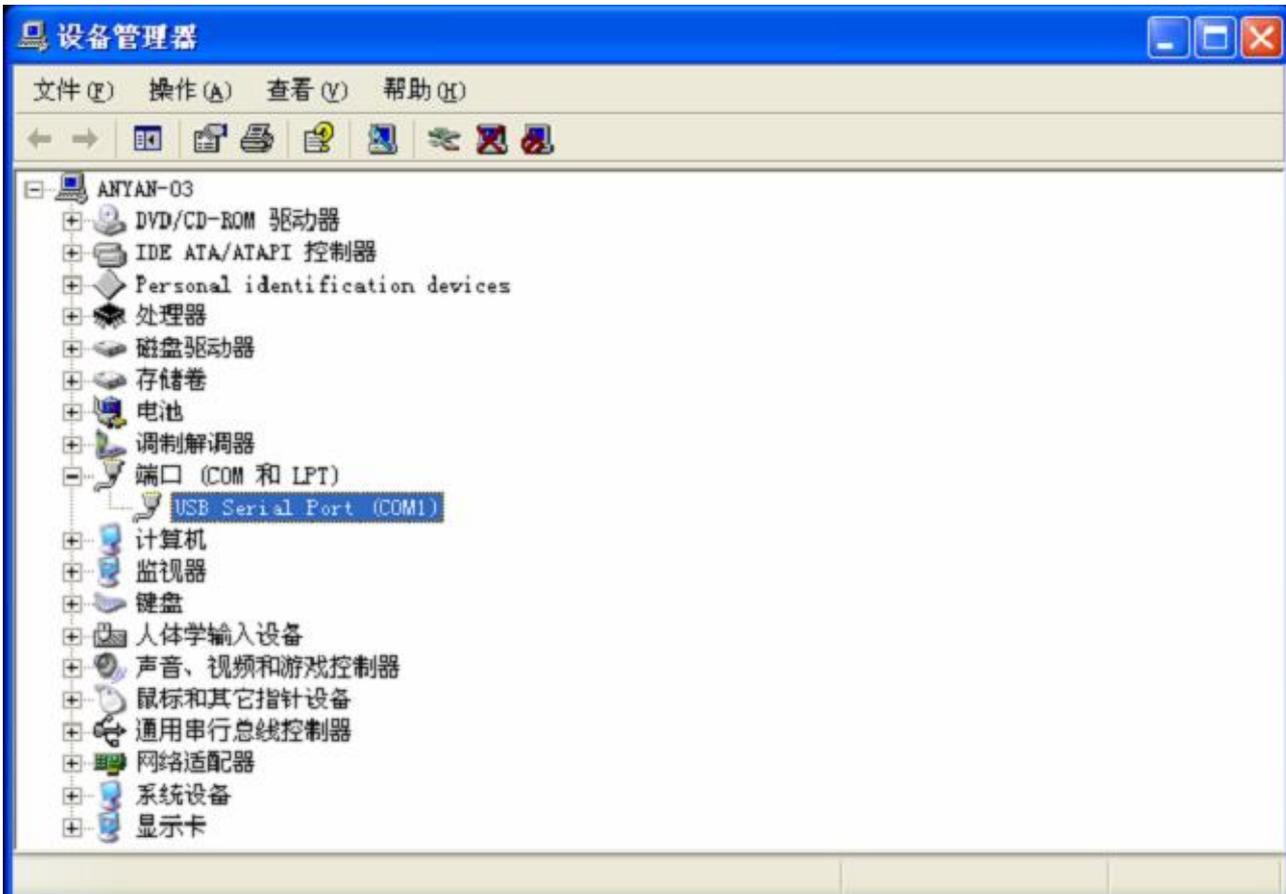

fig 32 USB-to-Serial Port
3. The OS will install the driver automatically, after installed, there is a new port will show on the “PORT” node in device manager, eg.,” USB Serial Ports(COM1)”,as show in fig 32.